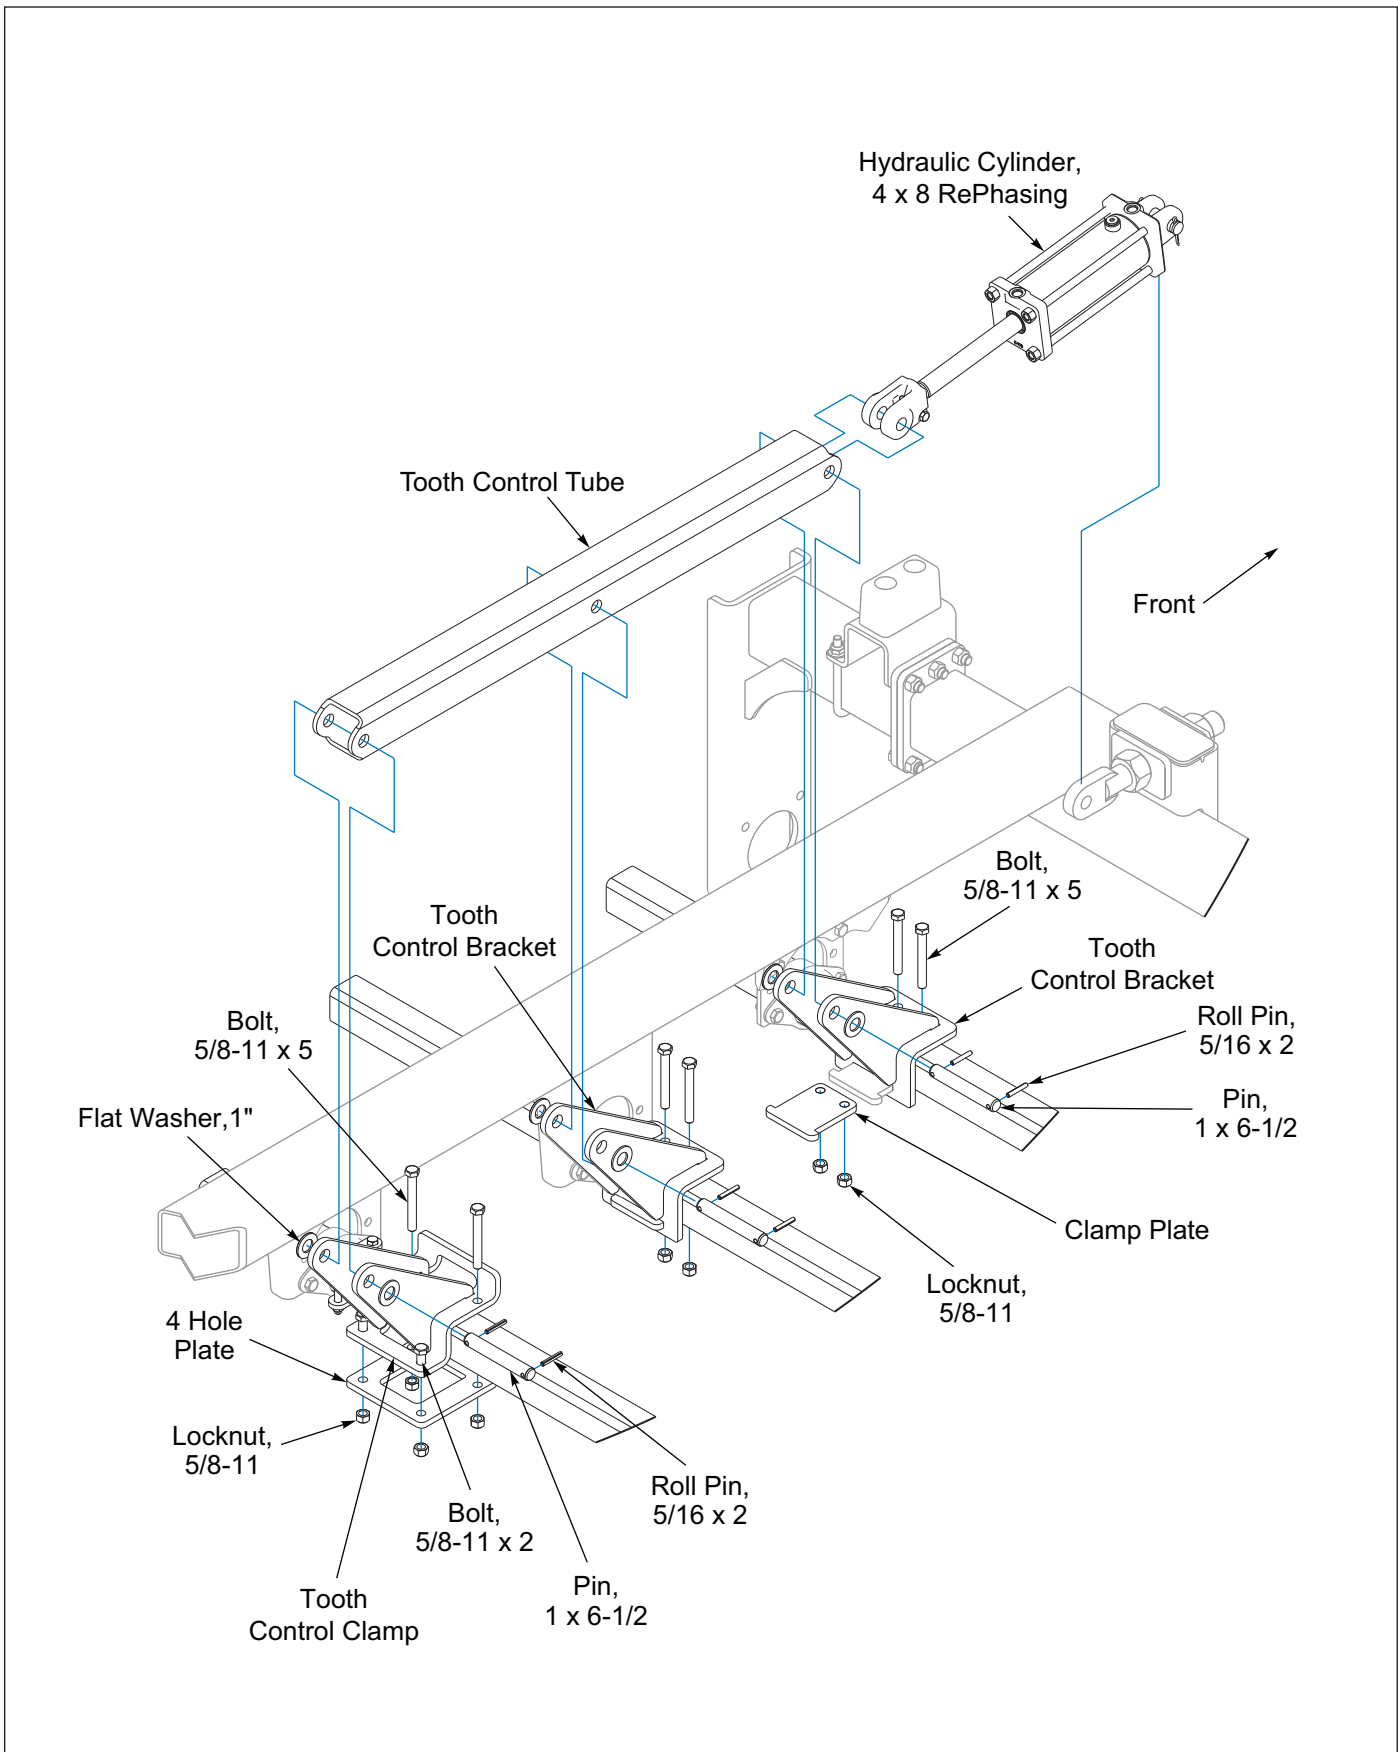

Figure 2-57: Left Hand Wing Tooth Control
1. Attach a Tooth Control Bracket on the top of the Front Tooth Tube by sliding a Clamp Plate into the Tooth Control Bracket Slot and under the Tooth Tube. Fasten with 5/8-11 x 5 Bolts and Locknuts, **Do Not** tighten at this time. **See Figure 2-57.**